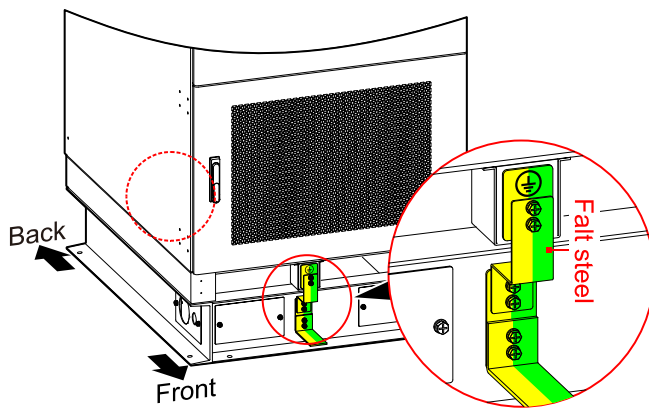

Figure4-2 External grounding terminal connection diagram (U-steel installation)
- Step 1 Connect the grounding terminal at the bottom of the energy storage system (locations shown in Figure4-2) to the grounding point on the U-steel or pre-buried in the foundation, and make anticorrosion treatment.